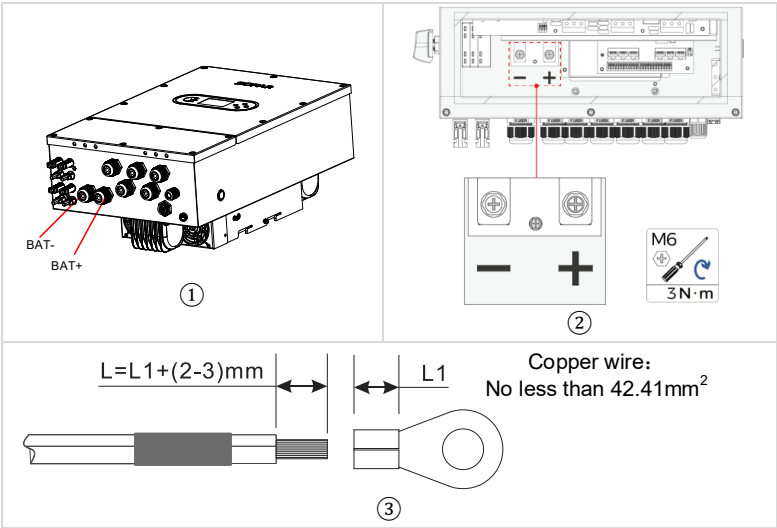

Figure 5-2 (a) Install battery connection
Step 3 Connect the cable through the BAT port, and pay attention to the correct polarity, as shown in Figure 5-2(a)①.
Step 4 After passing the cable through the BAT port, fix it to the BAT+ and BAT- of the inverter with M8 screws, as shown in Figure5-2(a)②).